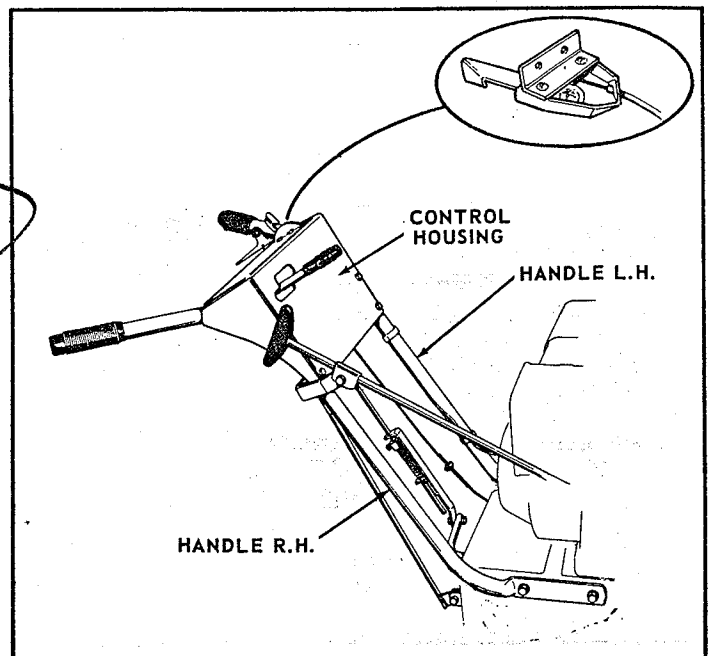

FIGURE 2
3. Fasten the Left and Right Handles loosely to the sides of the Frame Assembly using the 3/8" x 7/8" capscrew and 3/8" lockwashers. Do Not tighten securely at this time. See Fig. 2.
4. Install the Control Housing Assembly to the handles using the 1/4" x 1-1/2" capscrews in the top holes and the 1/4" x 1-3/4" capscrews in the bottom holes. Do not attach nuts and lockwashers at this time. See Fig. 2.
self tapping screws. Mount throttle control assembly to the handle cover using the (two) 10-24 x 1/2" hex head self tapping screws. Install the cable clamp the handle, approximately 5" above the frame. See Fig. 2.